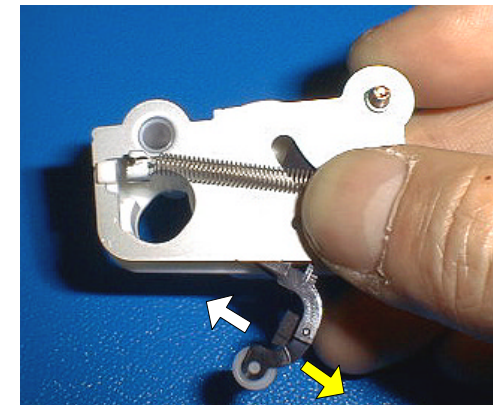

Figure 4-149. Checking Operation of "Curl Unit"
- 1. Pull "Lever Assembly, Curl" to yellow arrow direction by you hand. (See figure4-149)*